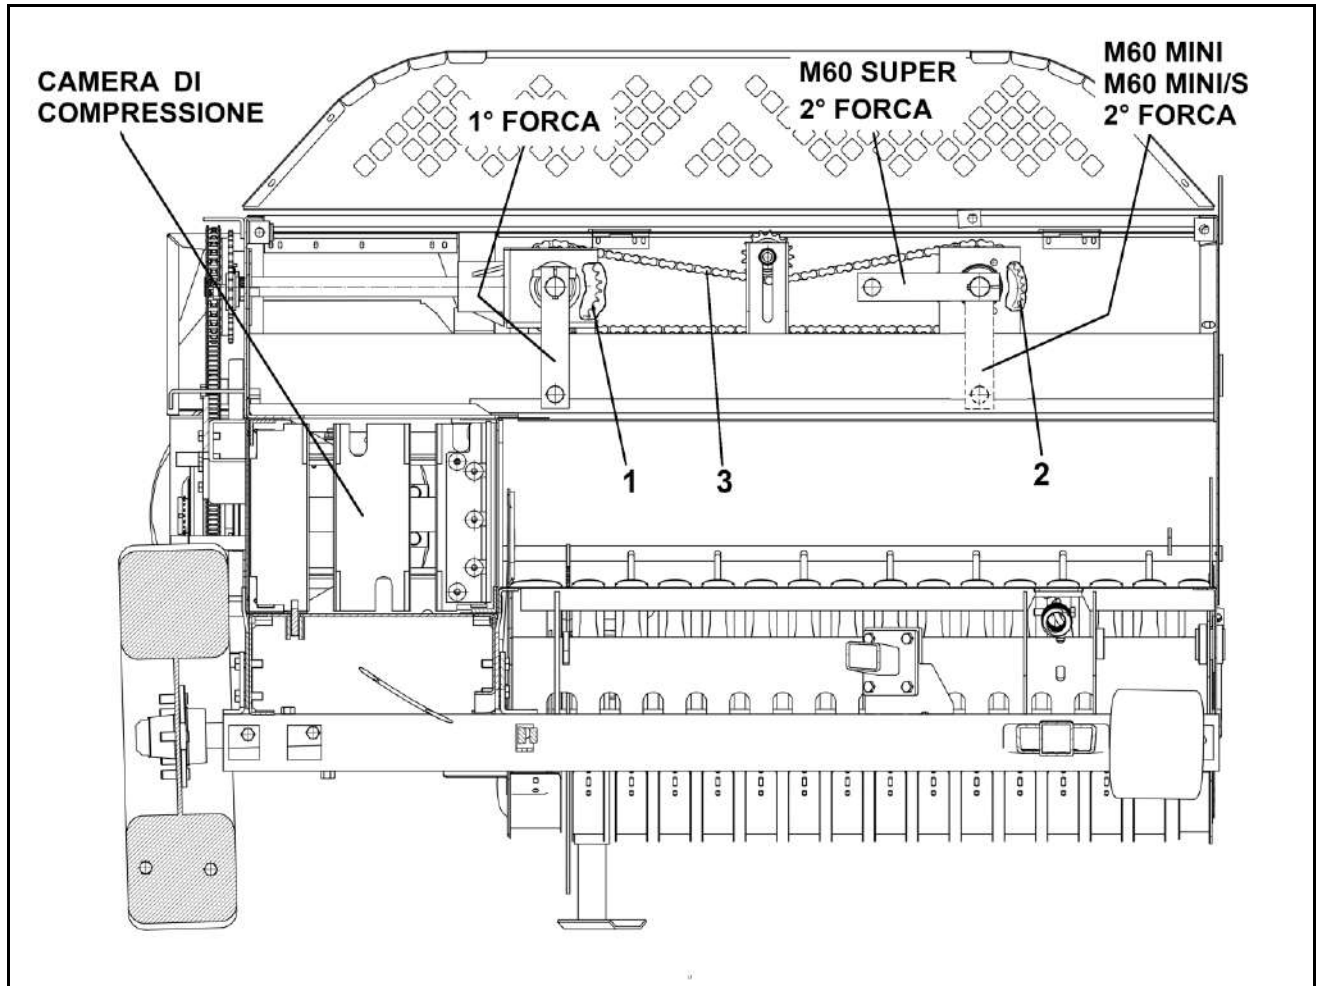

Fig. 7.6
3) Once the first fork has been timed with the carriage as described above, it is possible to continue with the timing of the second fork by connecting gear 1 and gear 2 by means of chain 3 (Fig. 7.6), after having put the second fork crank parallel to the first fork crank (for the M60 Mini and M60 Mini/S), or perpendicular to the first fork crank (for the M60 Super) (see Fig. 7.6). For long and tough products, it is recommended that the second fork be timed as indicated in section 7.6.2.
chain 3 (Fig. 7.6) must flex max. 1 mm.